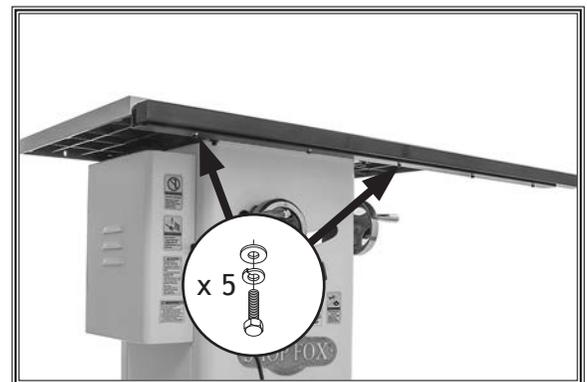

Figure 23. Front rail tube attached to front rail.
- Install front rail tube to front rail with (5) 1/4"-20 x 5/8" hex bolts, 6mm flat washers, and 6mm lock washers, as shown in **Figure 23**. Finger-tighten fasteners for now.